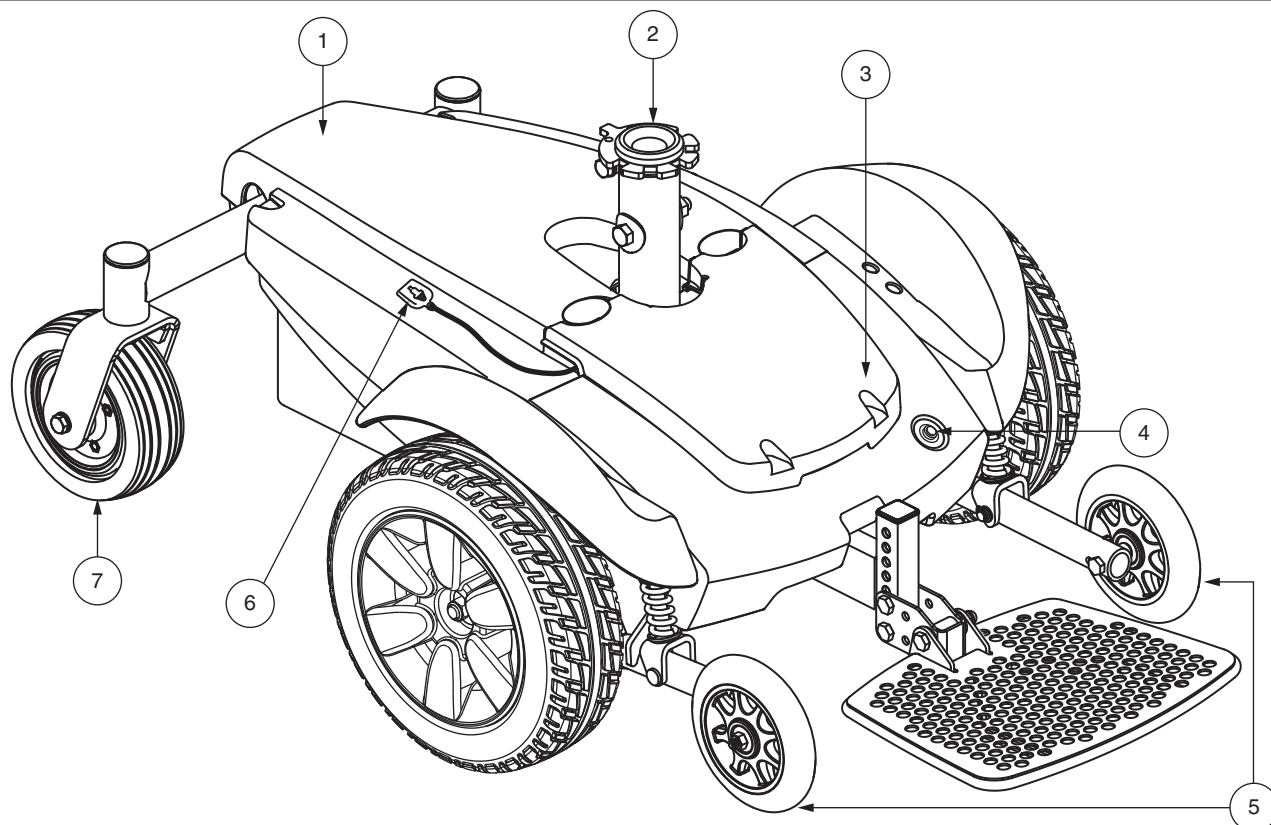

Figure 2. The Jazzy Select Power Base
4. Plug the controller harness into the connector on the power base. See figure 2, 3 or 4.